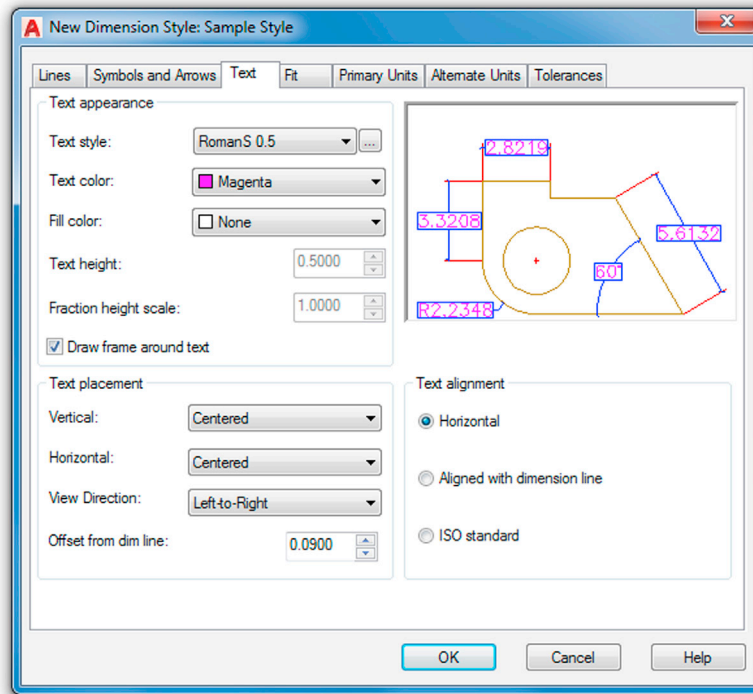

FIGURE 13.4 Text tab.
- **Text color:** Usually not set separately and remains “By Layer.” Here, for practice, we set it to the color Magenta, as seen in Fig. 13.4.
The Text placement category (bottom left) allows you to position the dimension value in every conceivable way near the rest of the dimension. You can place the values above, below, or centered on the dimension line. You can also move the values around the extension line, lining them up. Experiment with all the possible settings, observing the results in the preview window to the upper right. The default setting for both Vertical and Horizontal is Centered, as seen in Fig. 13.4. View Direction: flips the values around, and Offset from dim line: is best left alone and is adjusted as part of the overall scale settings.
With Text alignment (bottom right), the common default is Horizontal, because people generally do not want to tilt their heads to the side every time they check a dimension on a printout. Do try the other two options (aligned and ISO) to see what they do, though. Your Dimension Style dialog box should look like Fig. 13.4.